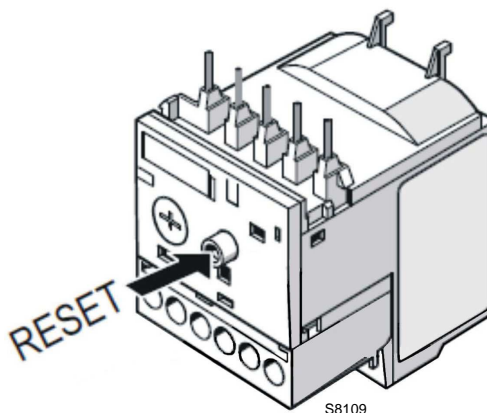

Fig. 19
- To reset, in the case of an intervention of the thermal relay, press the button “RESET” (Fig. 19).